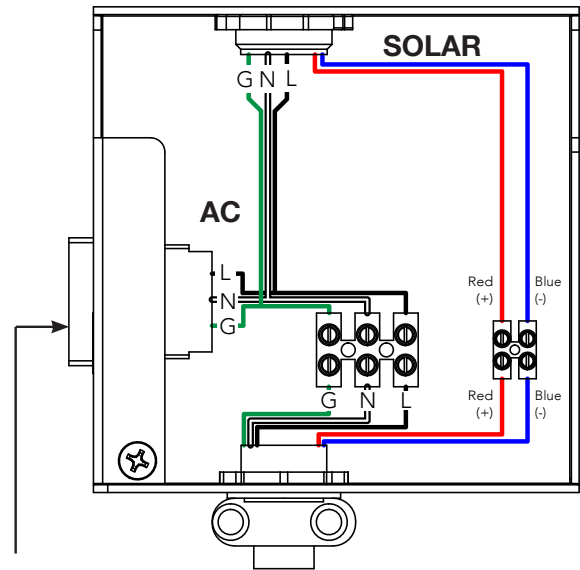

Figure 27. 115VAC/230VAC and Solar DC Terminals
4. Connect the incoming power supply wires to the AC or DC (solar) terminal block inside the junction box. Match the wire colors (Figure 27).